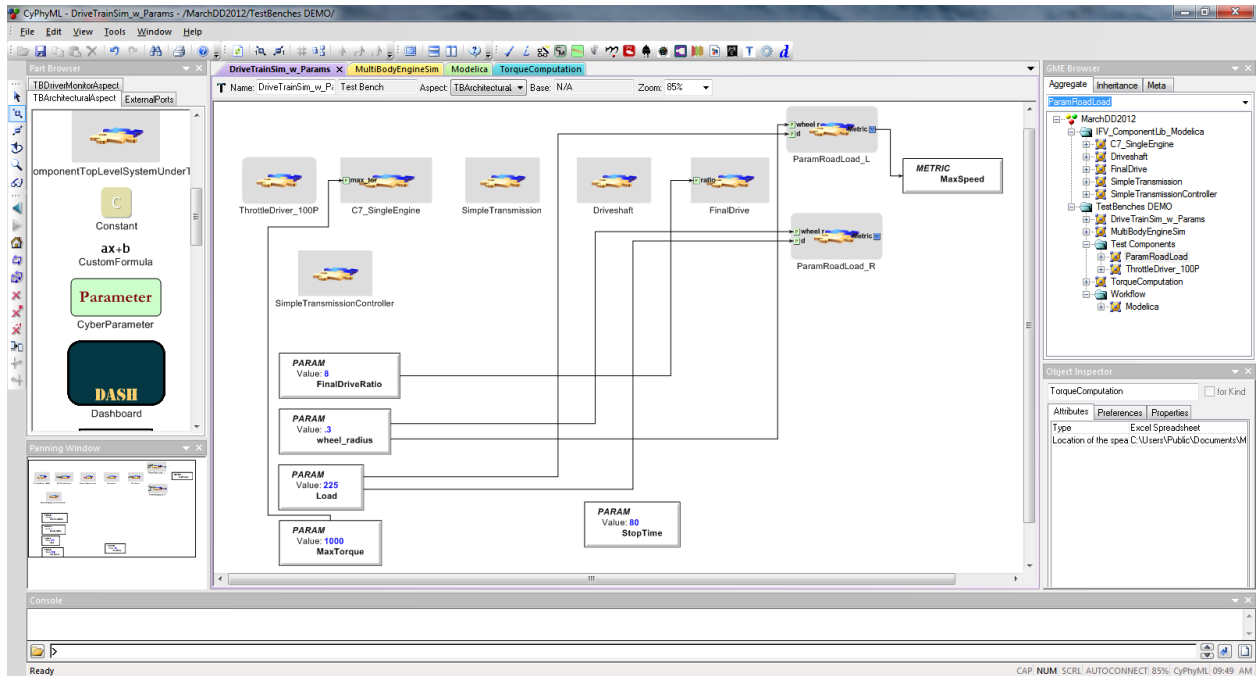

Figure 49. Complete DriveTrainSim_w_Params Test Bench
Finally, the user must add parameter and metric elements that will pass values to the various input ports associated with the test bench components. To do this, activate the `TBDriverMonitorAspect` window in the Part Browser and insert the five (5) parameters and one (1) metric provided below in Table 8. In addition, Table 8 provides the user with the values for each parameter and the component ports they must connect to. Figure 49 provides a screen shot of how the user’s main editing window should look upon completing this step. It is important to note that connections between the parameters and component ports were conducted in the `TBValueFlowAspect` aspect (these ports will not be visible in other aspects).